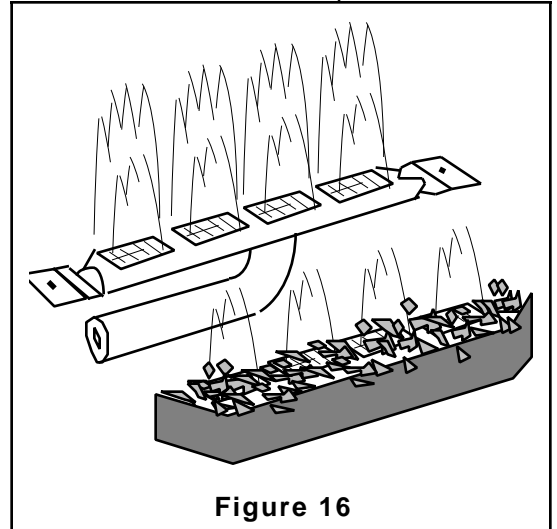

Figure 16
- A full bodied, lively flame. The flame will be blue at the base and a combination of blue and yellow at the body and tips. **Figure 16.**